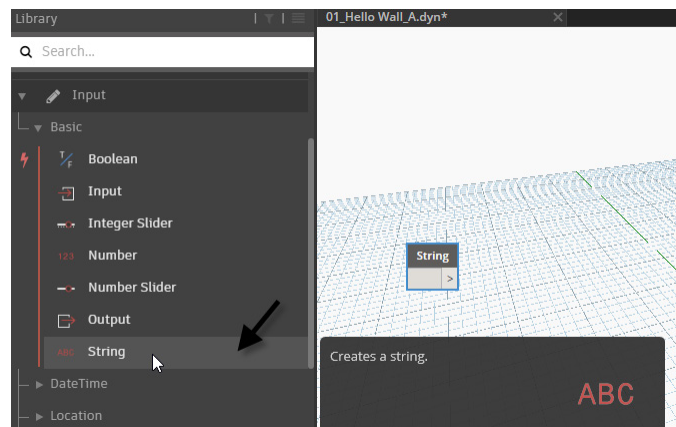

FIGURE 12
2. Click the **String** node to add it to the canvas (see Figure 12).